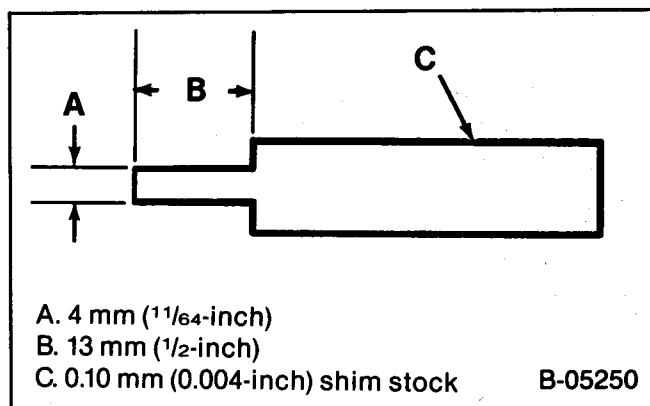

Figure 20—Oil Seal Installation Tool
Install or Connect (Figures 20, 21, and 22)
- An oil seal installation tool (figure 20) should be fabricated (if not provided in the seal kit) to prevent seal damage during installation. Extreme care should be taken when installing this seal to protect the sealing bead located in the channel on the outside diameter of the seal.